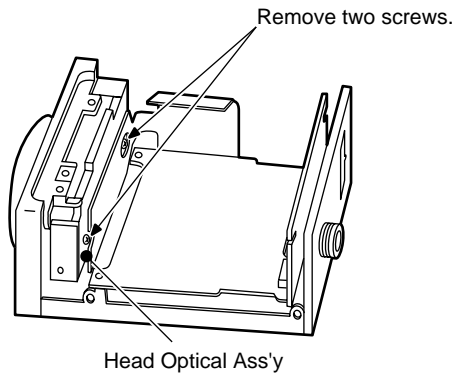

Fig. 3-1
- Referring to the item 2. **Disassembling Procedures for Adjustment**, remove both the Drive Board and Power Board.
- Referring to Fig. 3-1, remove two screws that secure the Head Optical Ass'y and remove the Head Optical Ass'y.